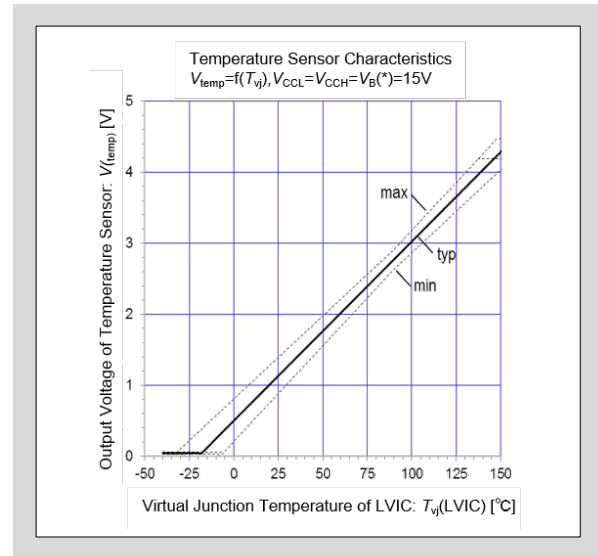

Fig. 3-25 LVIC virtual junction temperature vs. TEMP output voltage characteristic (with 5kΩ pull-down resistor)
- Fig. 3-25 shows the LVIC virtual junction temperature versus TEMP output voltage characteristics with 5k $\Omega$  pull-down resistor.